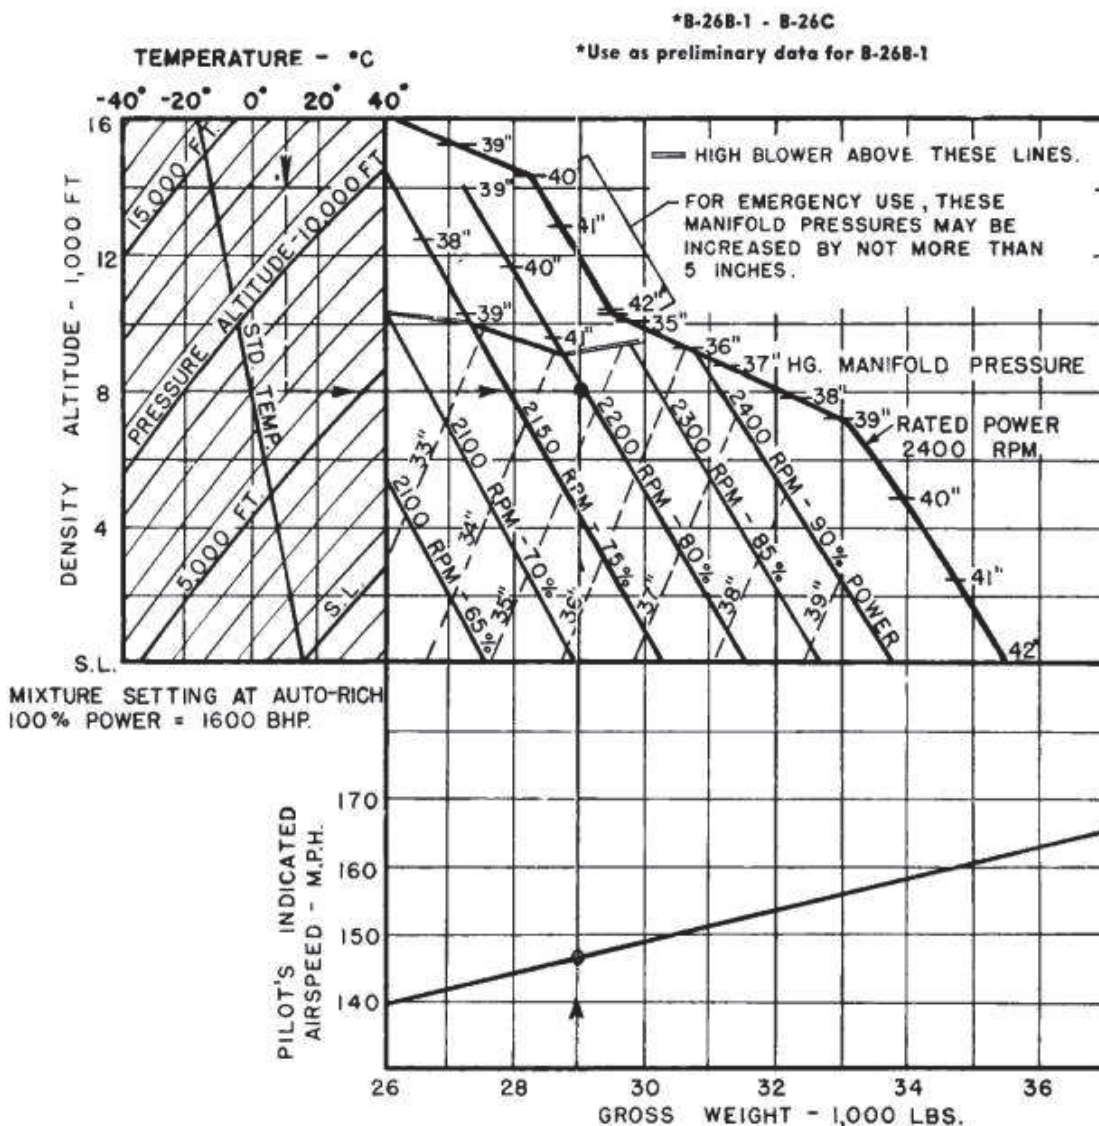

Figure 92 — Single-Engine Control Charts
## 6. SINGLE ENGINE CONTROL. (See figure 92.)
(1) From figure 92.